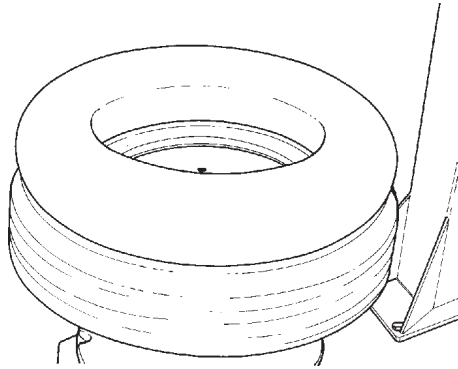

Fig.5.1-1
- B. Confirm that the tube is the correct size for the tire to be mounted. (Fig.5.1-1).